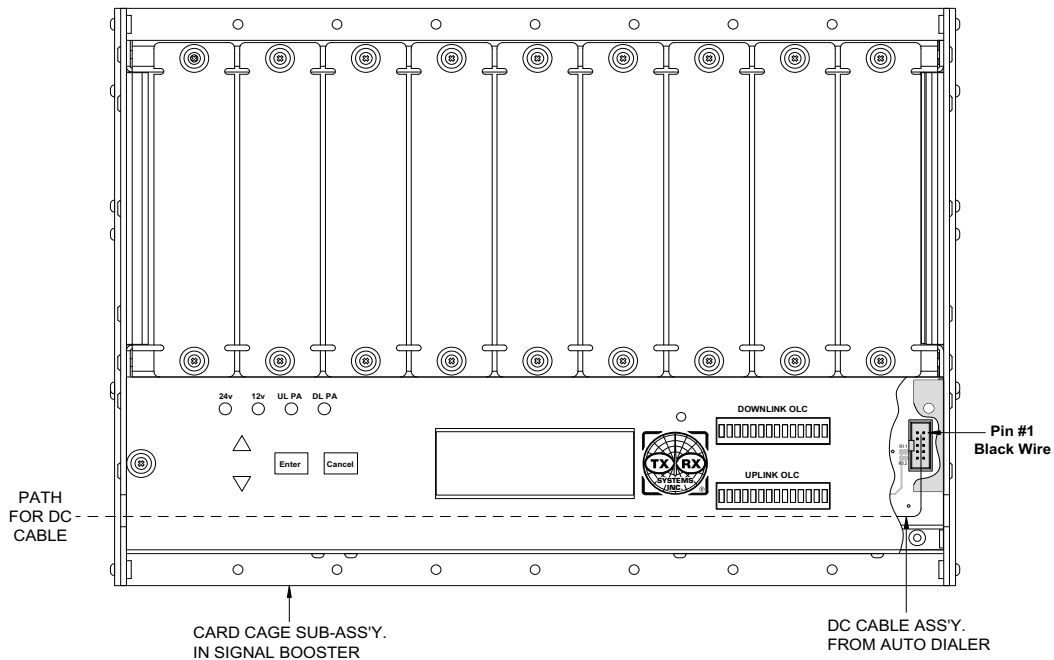

Figure 5: Connecting the DC cable to the card cage.
- 8) Plug the DC cable into the connector inside of the card cage as shown in **Figure 5**. In order to gain access to the inside of the card cage the display user interface assembly must be temporarily removed.
- E) With the display user interface assembly temporarily moved out of the way, route the DC cable from the dialer through the inside of the card cage along the path shown by the dotted line in figure 5.